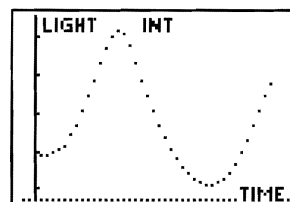

Figure 4
2. Turn on the STAT PLOT of L_2 versus L_4 (Plot2) to display distance versus time. Press **ZOOM** 9 to select the ZoomStat window. The purpose is not to fit an equation to this data but to look at the pattern formed and compare it to the graphs shown in Figures 4 and 5.